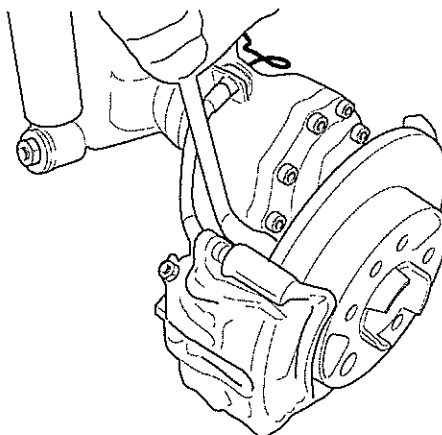

Fig 13 Remove calliper with brake pads
- 33 Loosen retaining screws (see Fig 13) and remove calliper complete with brake pads.